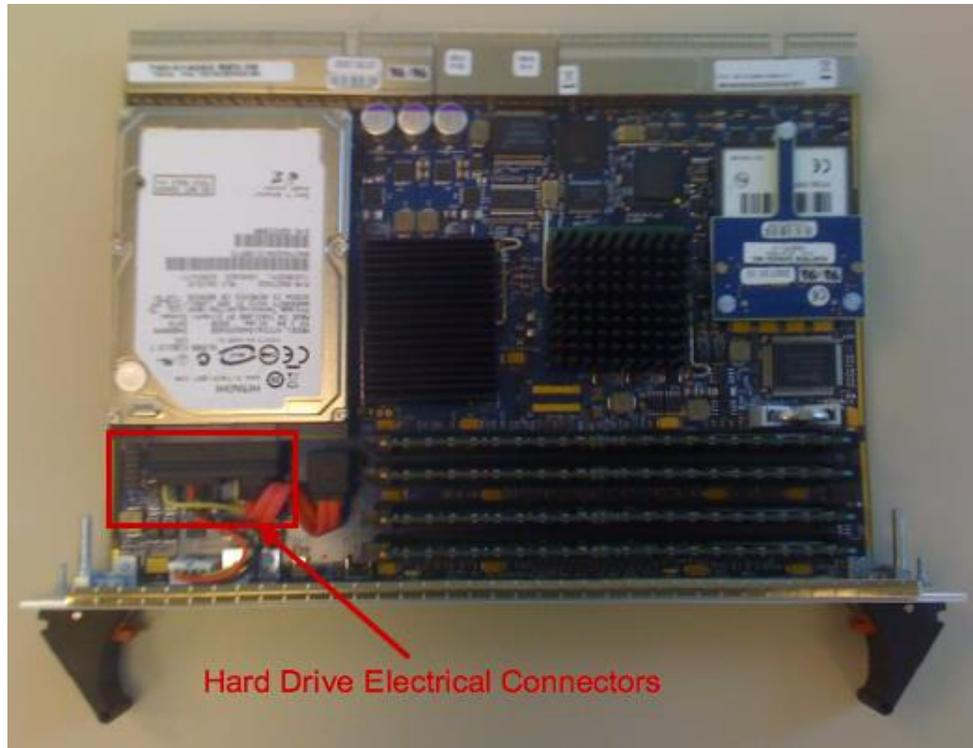

Figure 3-4: Hard Drive Electrical Connectors
5. Turn the RE back over and disconnect the electrical connectors from the hard drive and remove. See figure 3-4.